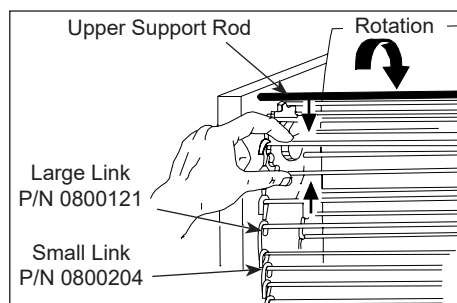

Figure 10. Removing Conveyor Belt Chain
9. Disconnect the chain by squeezing any two links together and unhook the links from each other (Figure 10). Needle-nose pliers may be used.
5. Disconnect the Conveyor Belt Chain by squeezing any two links together and unhook both ends of one link (Figure 10). Repeat on other side.
6. Place the new chain on the top sprockets with hook ends down. (Figure 10)